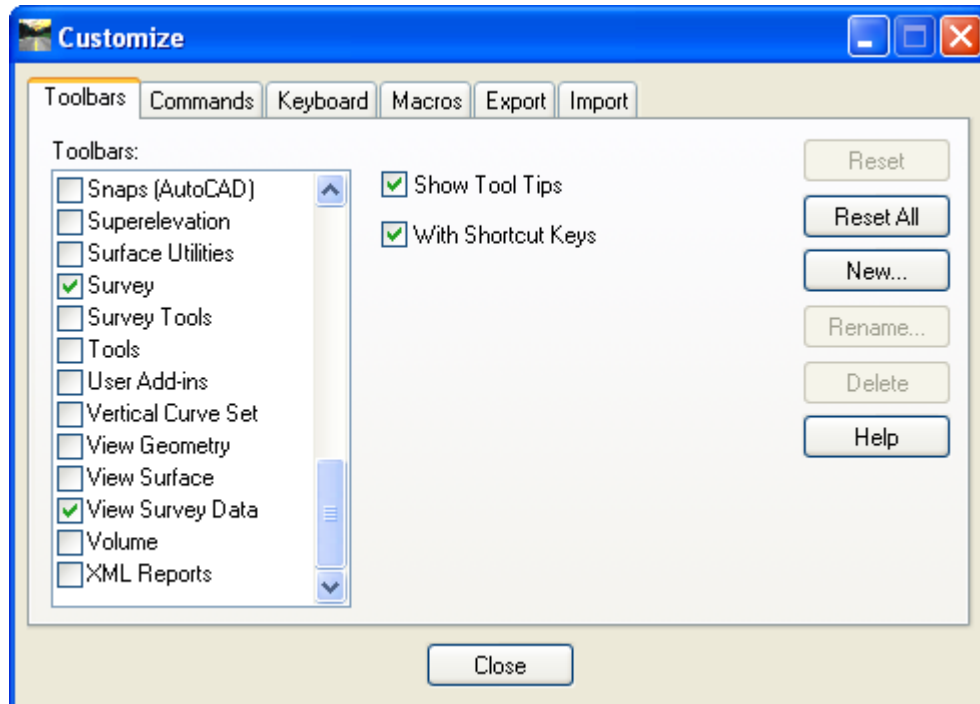

Figure 2-1 InRoads Customize Dialog Box
- C. On the Customize dialog box (Figure 2-1) toggle on **Survey** and **View Survey Data** and click **Close**.